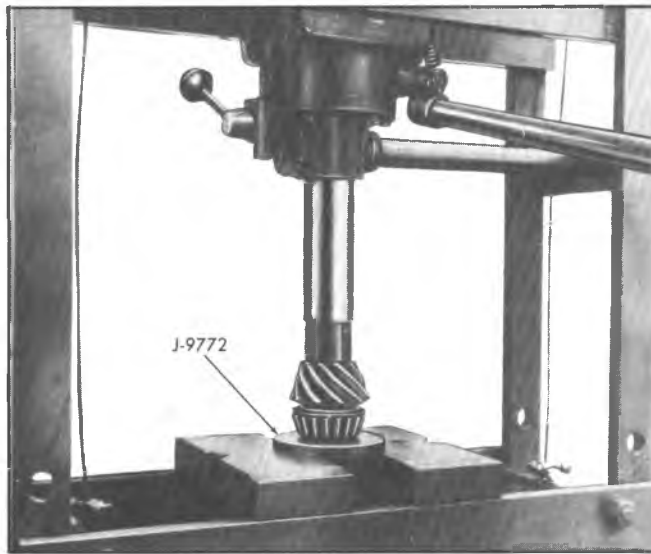

Fig. 23F—Installing Inner Pinion Cone and Roller
5. Press inner pinion bearing cone and roller onto pinion shaft using Installer J-9772 on arbor press as shown in figure 23F.